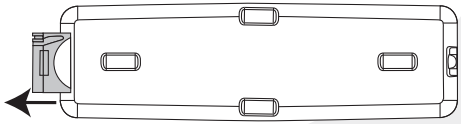

FIG. 42
2. While tab is down, **pull** battery sleeve out (Fig. 42). **Remove** old battery.